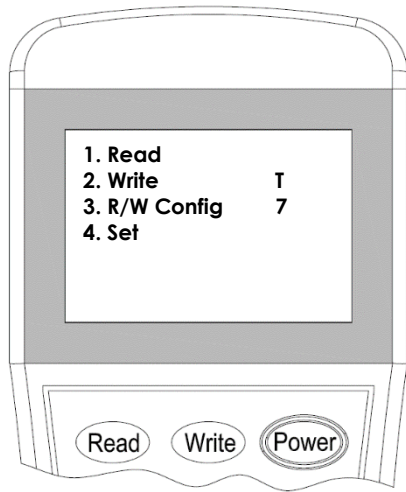

Figure 12
2. Switch-on the programmer, then press button **“3”** to enter to **Configuration mode** (Figure 12).